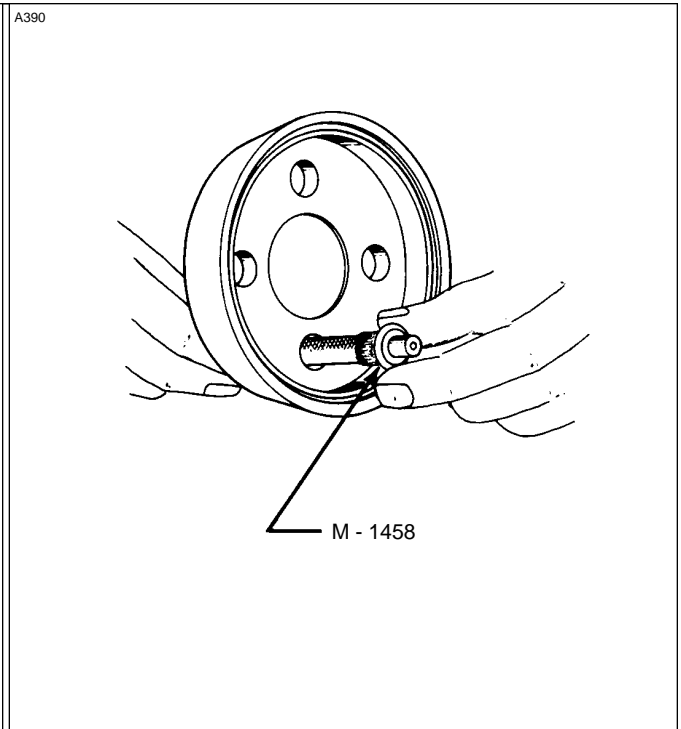

Figure 8-23 Securing Wire in Housing
- l. Install an M-1458 Male Tapered Drive Ferrule over insulation and under shielding as in step "i" then drive the ferrule into the M-1569 or M-1893 Housing using the M-1744 Drive Tool, similar to step "j". Refer to figure 8-23.